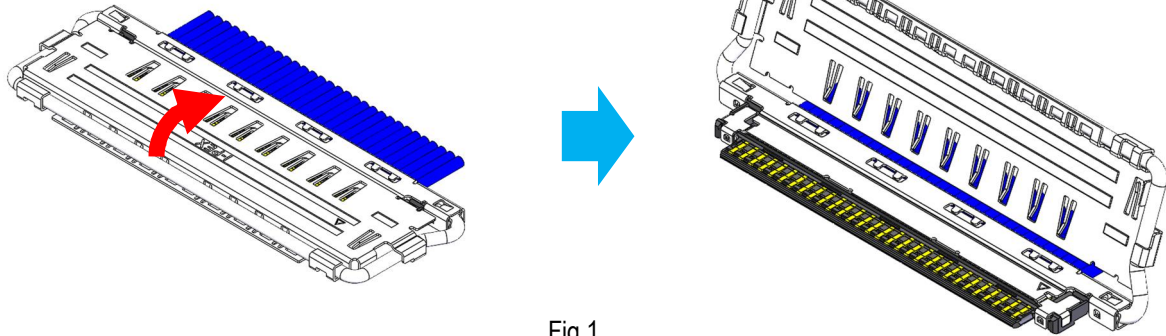

Fig.1
- ① Open the lock bar assembly. (Fig.1)